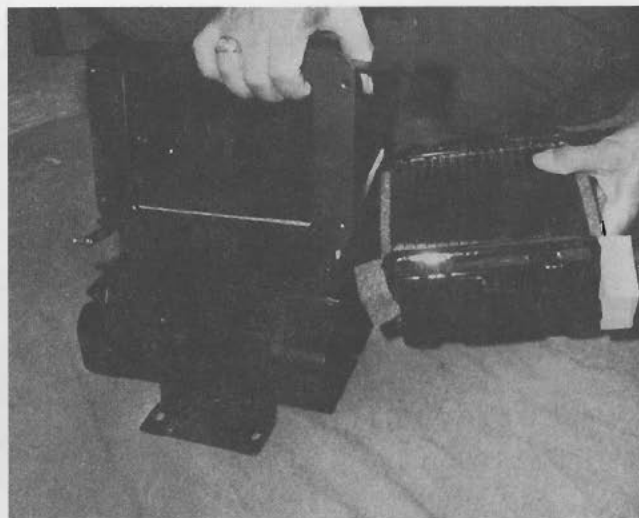

Figure III-13. Removing Heater Core
6. Grasp the heater box and heater core firmly while working the heater core out of position (see Figure III-13.) Replace a defective heater core with (Part No. 27115-E 4400) Assembly-core heater.